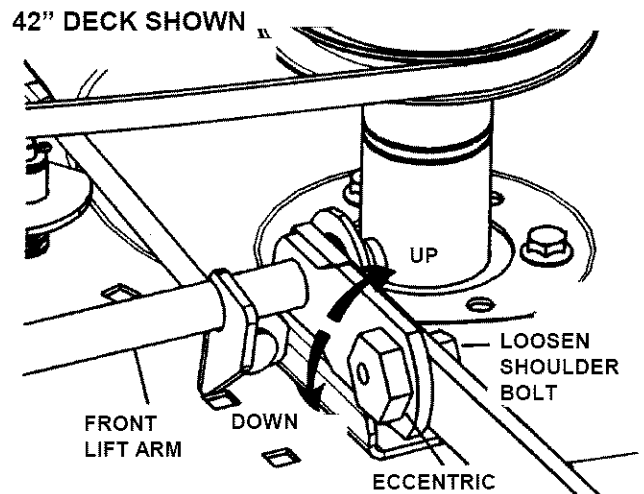

FIGURE 4.7
g. Turn eccentric "UP" or "DOWN" as required until blade tips are within  $1/8"$  of the same distance from the floor. See Figure 4.7.